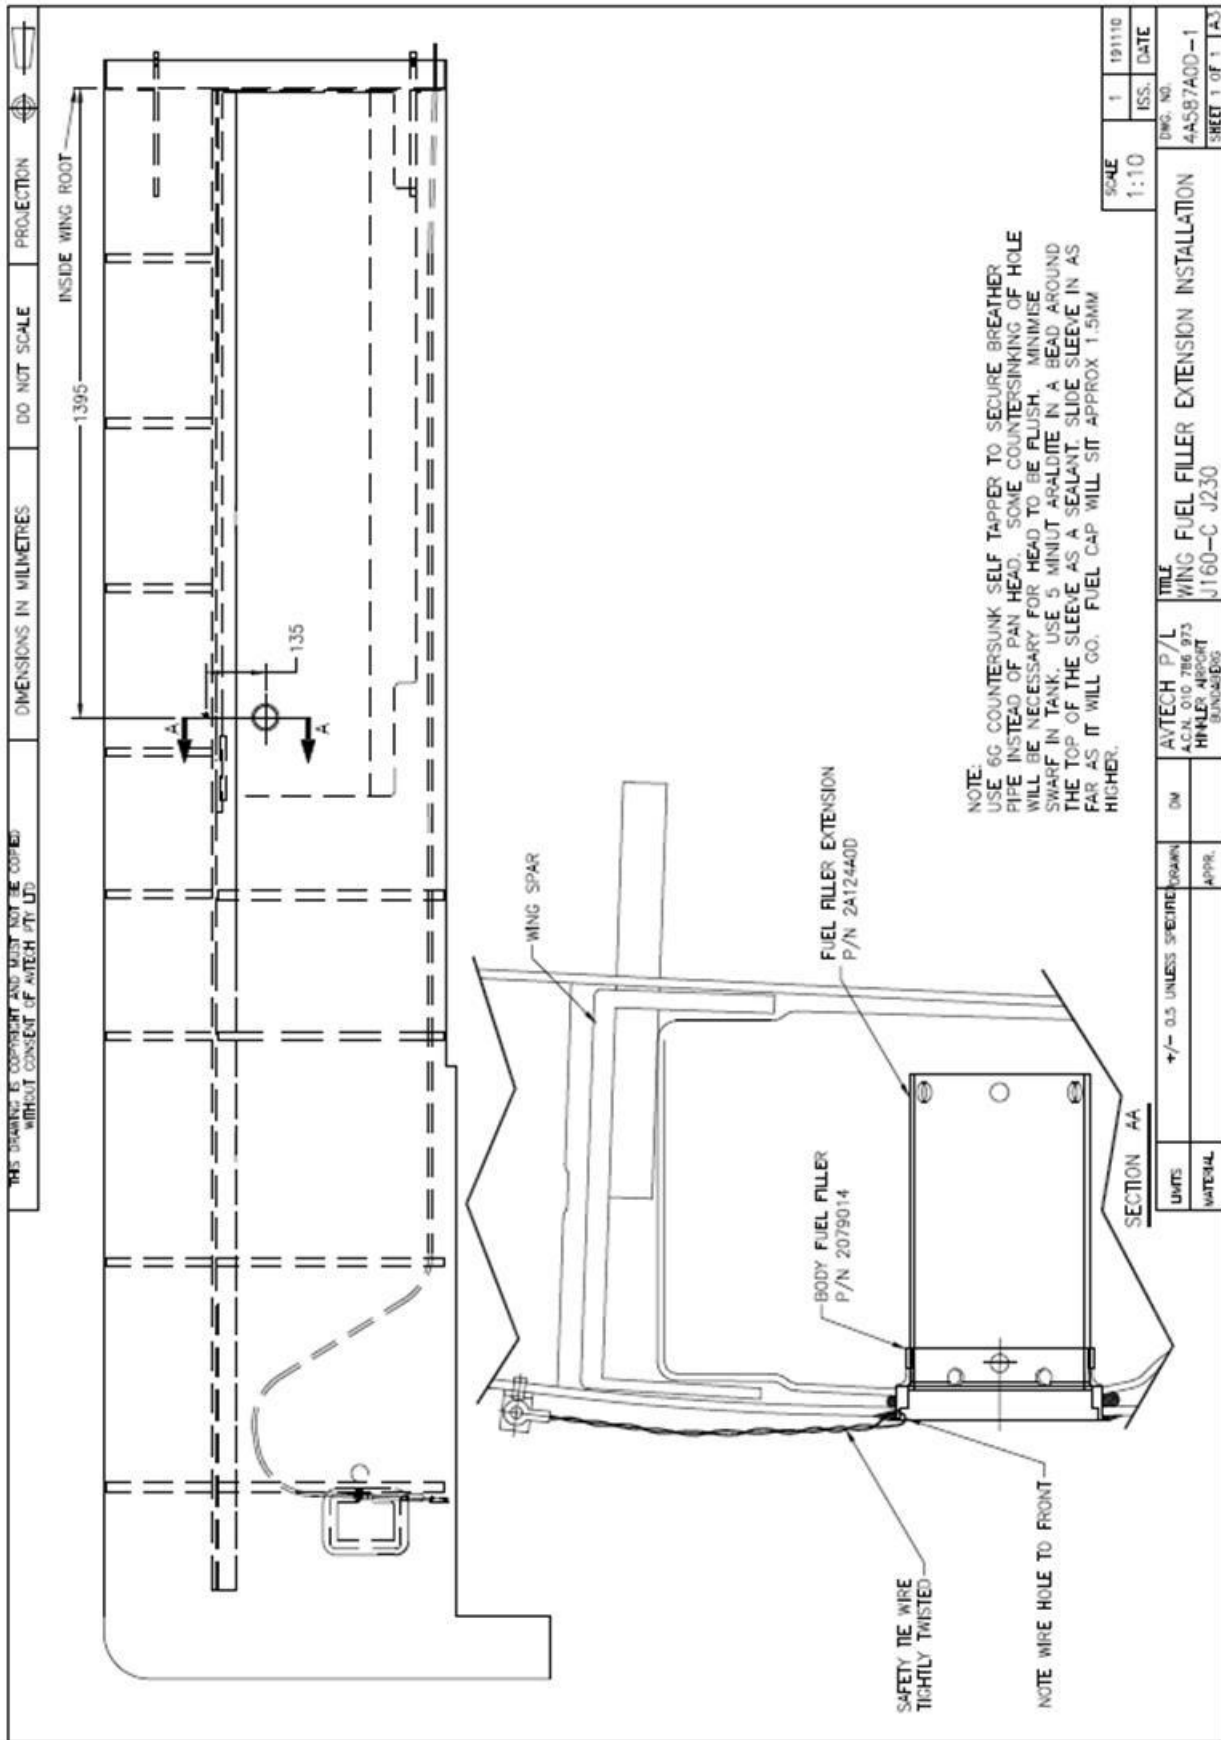

Figure 1 – Installation Drawing
- Fit fuel tank filler sleeve P/No. 2A124A0D to the fillers of both wing tanks. Fit the sleeve as detailed in drawing 4A547A0D (Figure 1 below).